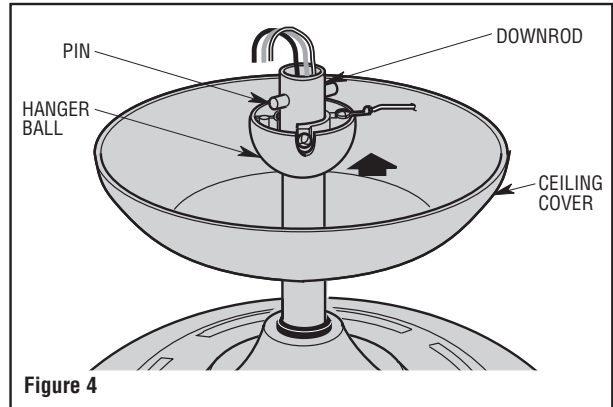

Figure 4
5. Reinstall the hanger ball (Figure 4) on the downrod as follows. Route the three 80" motor leads through the hanger ball. Position the pin through the two holes in the downrod and align the hanger ball so the pin is captured in the groove in the top of the hanger ball. Pull the hanger ball up tight against the pin and securely tighten the setscrew in the hanger ball. A loose setscrew could create fan wobble.